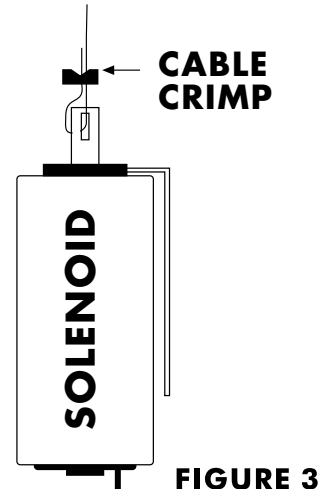

FIGURE 3
5. Run cable through the eye of the solenoid, create a loop, and secure w/ aluminum crimp. (See figure 3)